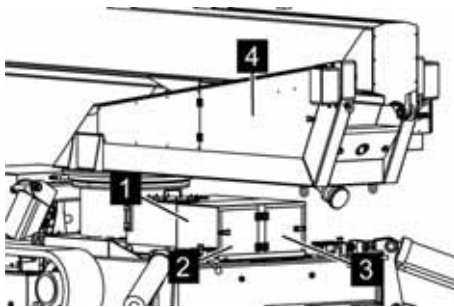

Fig. 116: Shuttle valve cover
2. ➤ Open the doors (Fig. 116/2 and 3) or completely remove the cover (Fig. 116/1).
3. ➤ Open the door (Fig. 116/4).